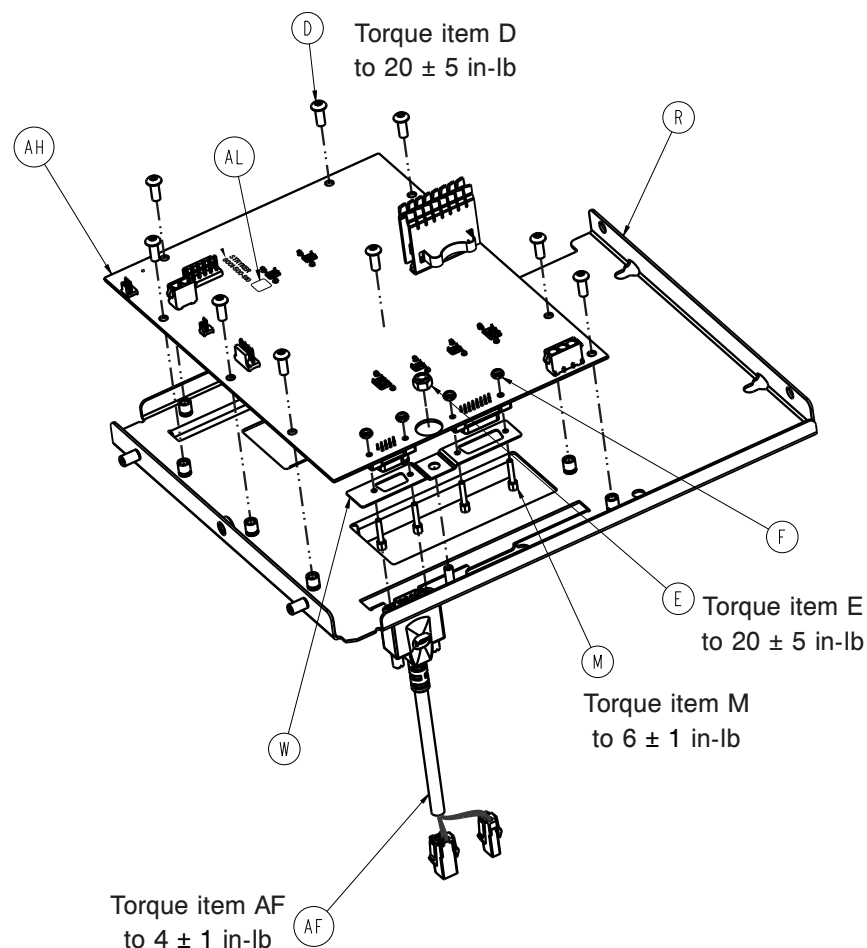

Figure 33 – Fluid grounding bracket
15. Using a T25 torx, remove the nine screws (D) that secure the fluid management board (Figure 33).
16. Using 3/8" socket, remove and save the nut (E) that secures the fluid grounding bracket (Figure 33).